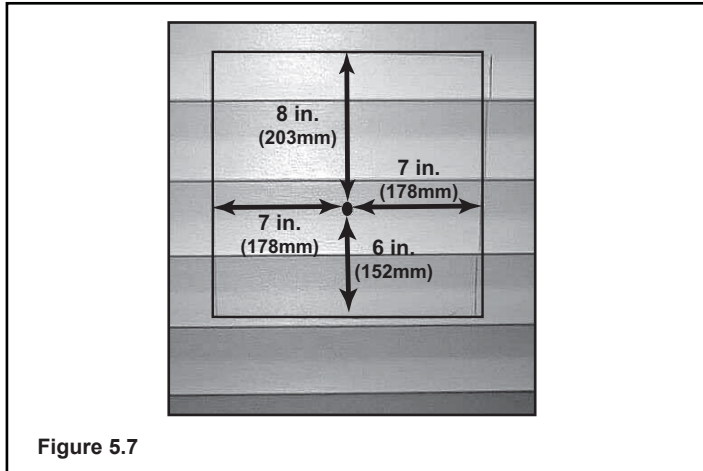

Figure 5.7
- (1) The four wood screws provided should be replaced with appropriate fasteners for stucco, brick, concrete, or other types of sidings.
- (2) Termination cap HHW2 (Part #841-0670) is highly recommended on a building with vinyl siding, as the vinyl siding standoff is built in. The pilot hole will be 2 in. (51mm) closer to the bottom of the square than the top. Using a framing square, draw a 14 in. x 14 in. (356mm x 356mm) square around the pilot hole in the siding. See **Figure 5.7**.